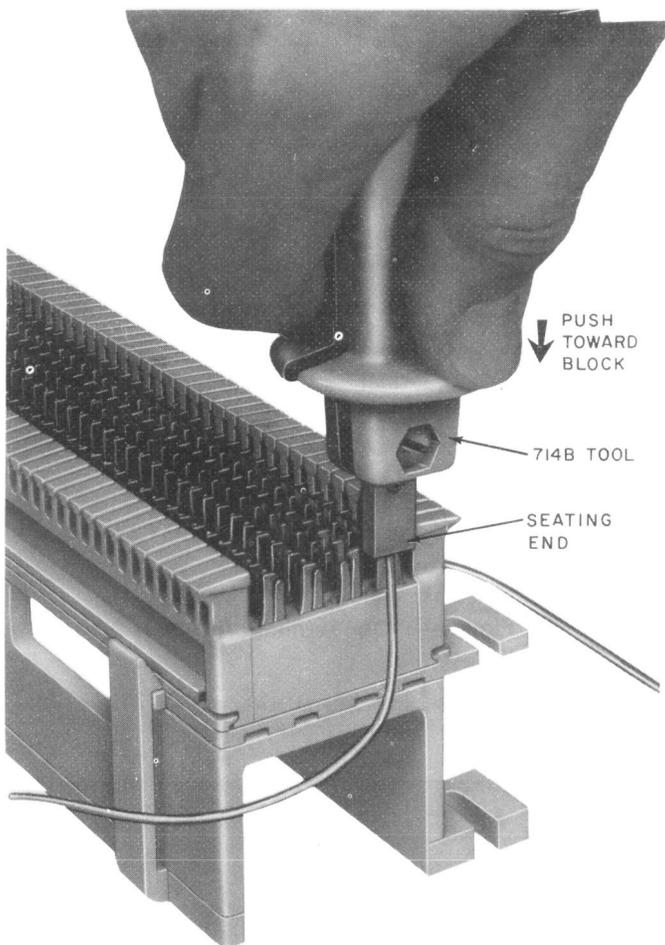

Fig. 11—Making Loop-Through Termination
3.08 To make a loop-through termination on the connecting block, proceed as follows (Fig. 11 and 12):